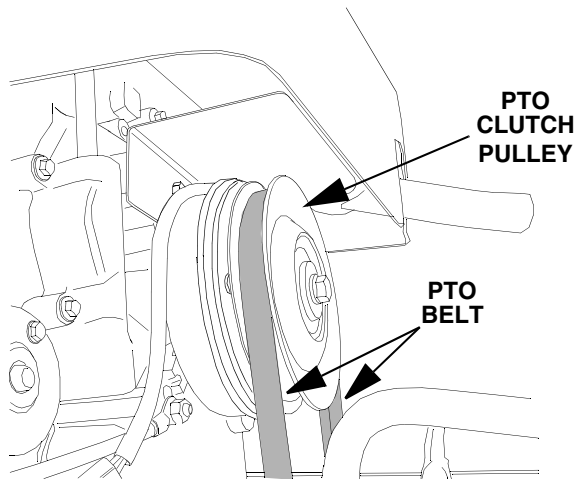

Figure 34
10. Open the tractor hood and install the forward end of the PTO belt onto the PTO clutch pulley on the front of the engine. Ensure that the narrow side of the PTO belt engages the groove of the pulley (See Figure 34).